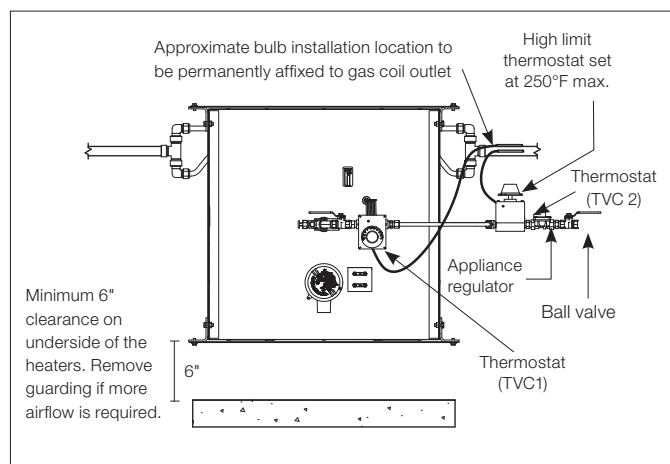

Figure 1
4. Install High-Limit bulb (TCV2) and each heater thermostat (TVC1) permanently to the outlet side of the coil. See Figure 1, page 3 for approximate installation location. Insulate bulbs for better temperature sensing results.